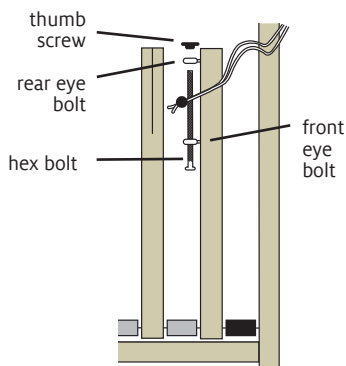

FIGURE 9: TIE-UPS ON OUTER TREADLES
20. The 2 outer treadles on the 8.10 do not have slots like the 8 inner treadles; they have a hex bolt and thumb screw instead (Figure 9). To attach tie-ups to these treadles, remove the thumb screw and push the hex bolt towards the front of the loom until its shaft sits between the two eye bolts. Loop the button end of the tie-up over the bolt shaft. Slide the bolt back through the rear eye bolt and reattach the thumb nut.